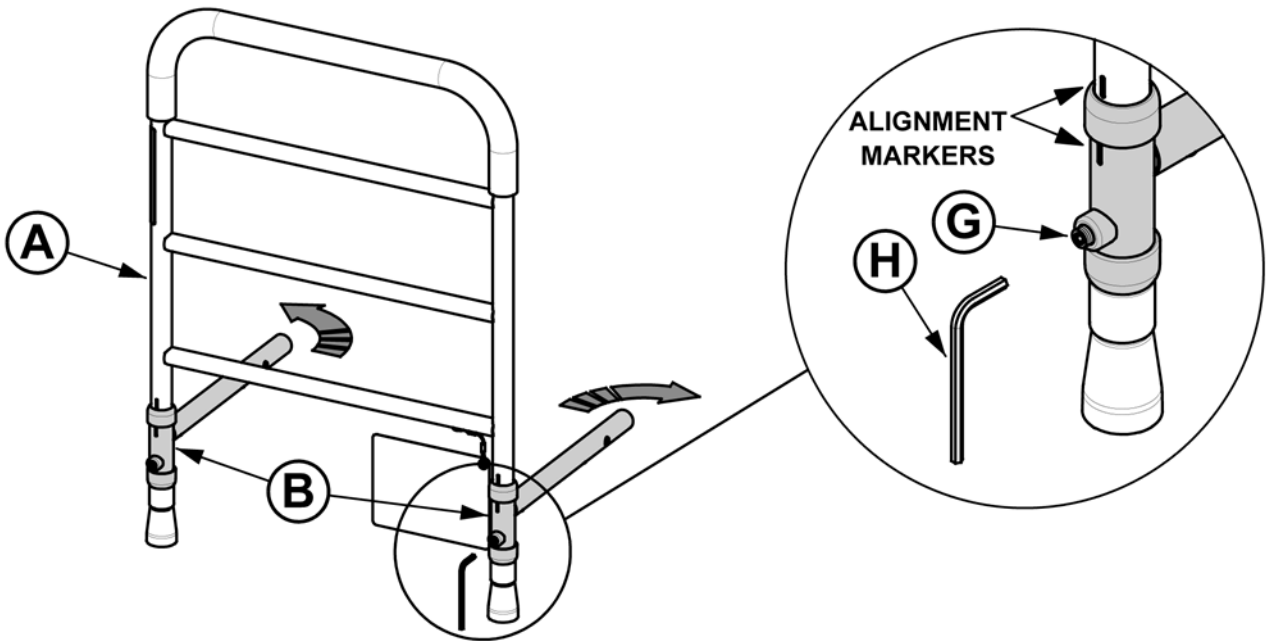

FIGURE 1
1. Rotate Base Connectors **B** outwards until **Alignment Markers** line up. Using Tool **H** loosely secure Screw **G** until Base Connectors **B** no longer rotate freely as shown in *FIGURE 1*. **Note:** DO NOT fully tighten Set Screw **G** in this step.